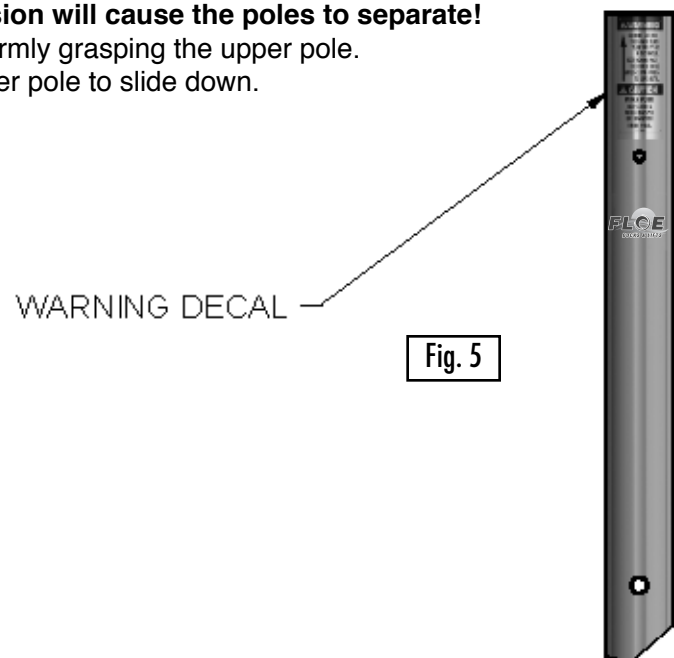

Fig. 5
- Tighten the knob bolt. (Shown in Fig. 5)